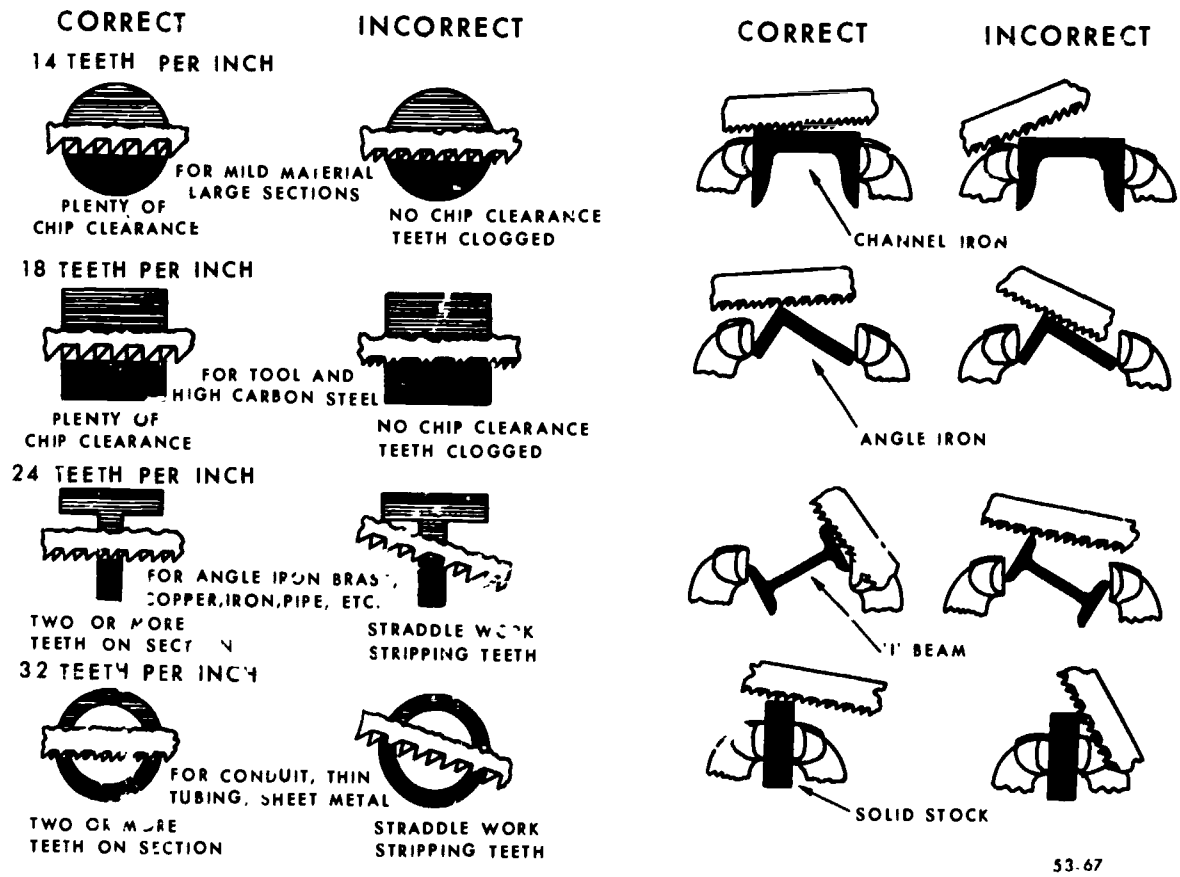

Figure 5-6. Selection of pitch.
You do not have to worry about the set of a hacksaw because it is built into the blade. However, your judgment in selecting a blade with proper pitch (number of teeth per inch) may well determine how quickly and easily the saw cuts through the material and how long the blade can be used. Blades are made with pitches of 14, 18, 24, and 32 teeth per inch, as shown in figure 5-6. Follow these recommendations for best results:
- Select a pitch or manage the sawing so that two or more teeth are usually in contact with the material, as you see in figure 5-6.
**Exercises (029):**